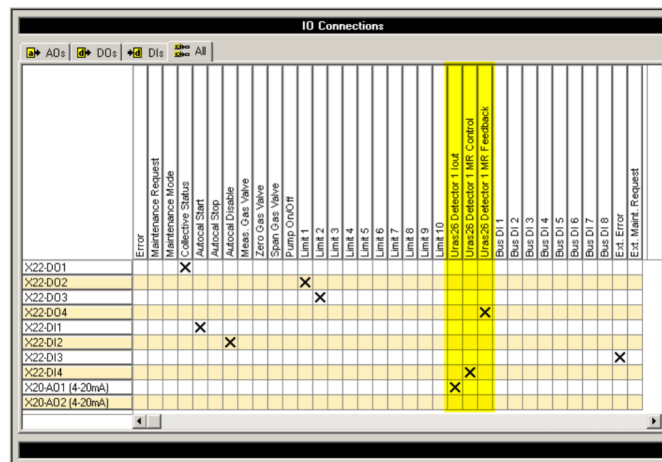

Figure 35: 'IO Connections' menu
The automatic measuring range switchover ‘Autorange’ can only be configured if an analog output is assigned to the detector. The externally controlled measuring range switchover ‘DI Control’ can only be configured if an analog output and a digital input are assigned to the detector, see **Figure 35** on page 67.
- The externally controlled measuring range switchover ('DI Control') can only be configured if an analog output and a digital input are assigned to the detector, see **Figure 35** on page 67.